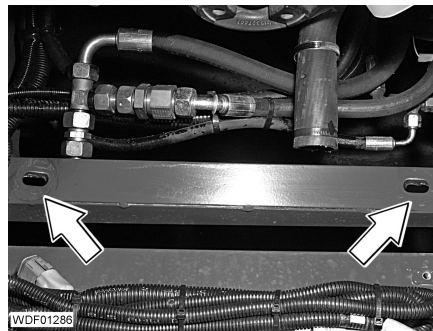

Fig. 129 Attachment points
- Put in the radiator carefully so that the screws on the underside of the radiator engage in the attachment point slots (Fig. 129).